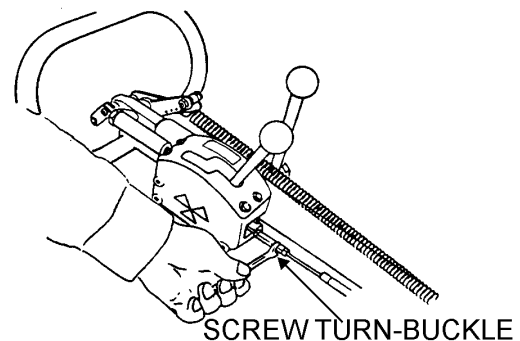

Figure 38. Adjusting the Turn-Buckle
3. If the machine moves forward, screw the turn-buckle clockwise. If the machine moves backwards, screw the turn-buckle counterclockwise (Figure 38).